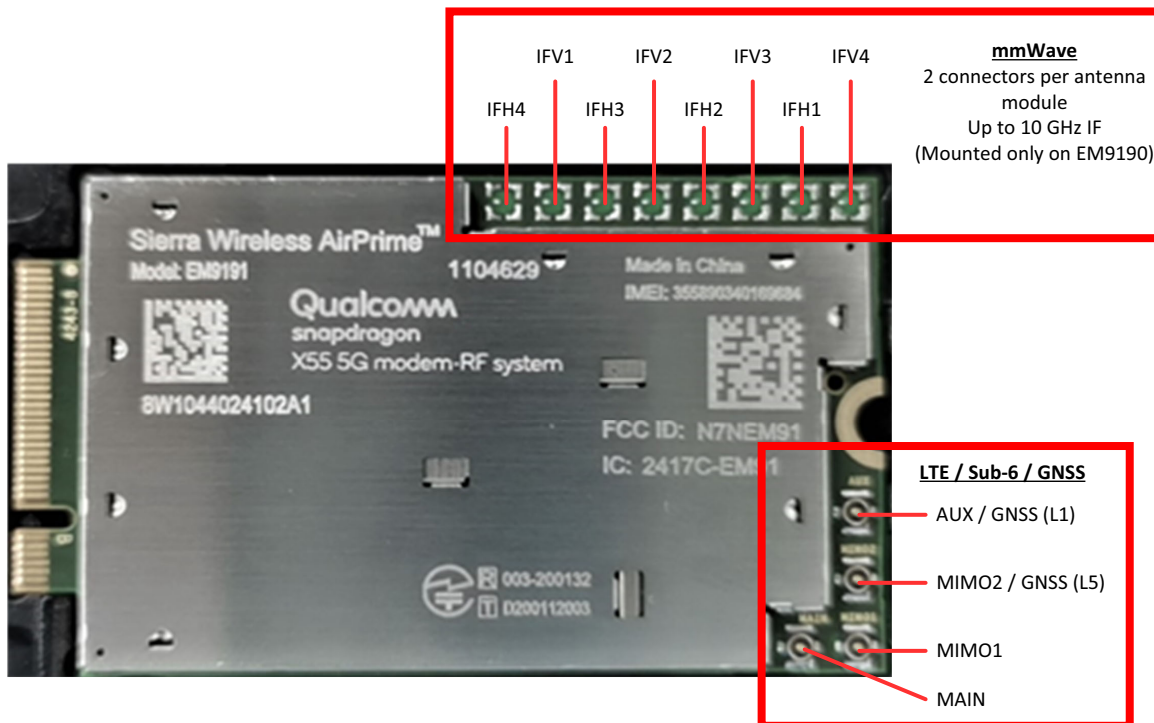

Figure 3-1: RF Connectors (EM9191 shown)
2. Connect the RF cable to the MAIN port—see Figure 3-1 on page 10.